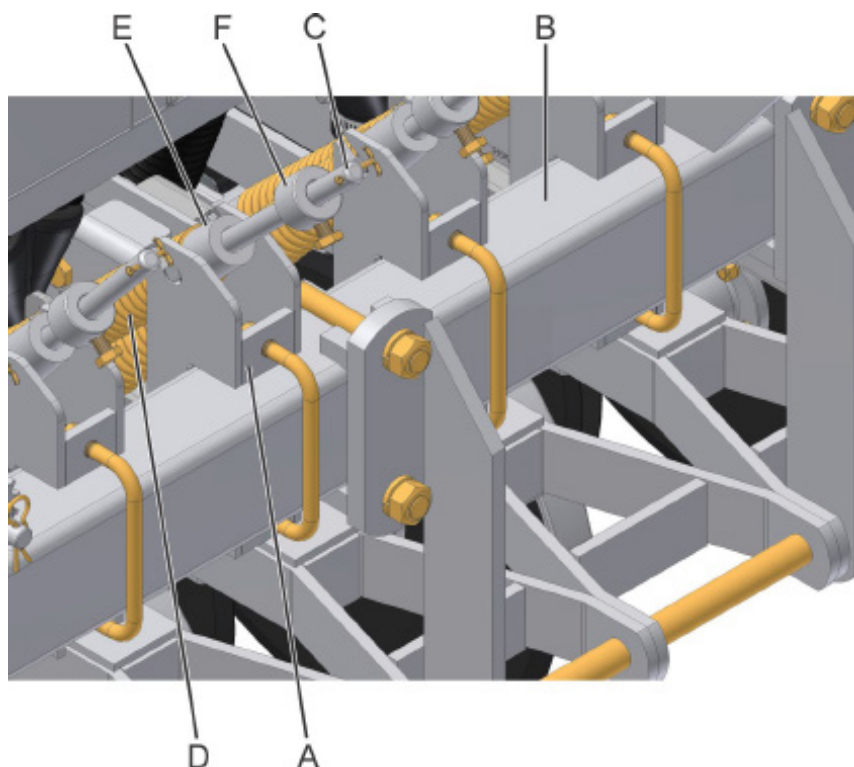

fig. 10
- 1-** Assemble the articulating supports of the lines (A) (fig. 10), in the rear pipe of the chassis (B), leaving them slightly tightened;
- 2-** With the seeder still suspended on the rests, place the rods (C) with the springs (D) in the hole of the articulator (E) and then fasten the rods in the furrow line through nuts and bolts;
- 4-** Remove the rests and lower the seeder to the soil. Execute the end retightening of all the components and fasten the bushings (F) and place the cotter pins in the upper hole of the rods;